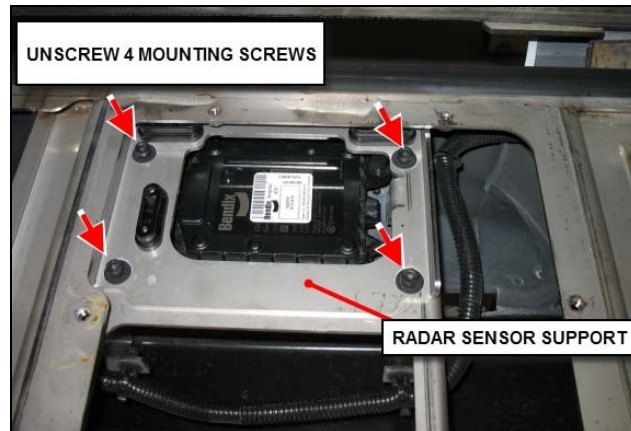

FIG.5: X3 SERIES
3. Unscrew 4 mounting screws, remove the radar sensor support and disconnect the radar sensor harness (fig.5). Keep existing hardware for reuse. If needed, cut one or two nylon ties securing the harness to ease removal.
2. Unscrew 4 mounting screws, remove the radar sensor support and disconnect the radar sensor harness (fig.5). Keep existing hardware for reuse. If needed, cut one or two nylon ties securing the harness to ease removal.